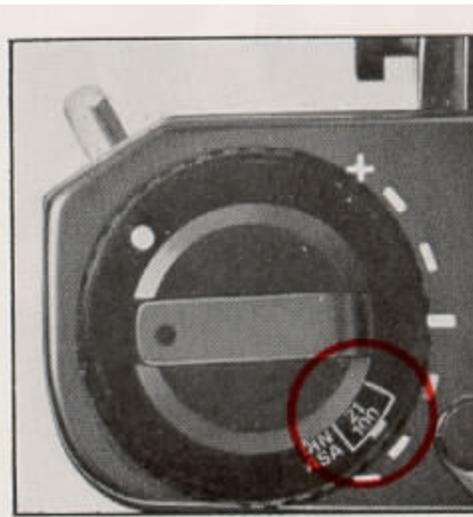

Fig. 37
(5) white index 2/3 under exposure (Fig. 37)